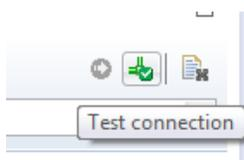

Figure 4 – Test connection
1.3 **Test the connection:** Once you enter the properties of the remote source, select the icon for testing the connection as shown in Fig 4 below and make sure that you get a confirmation as shown in Figure 5. You can then see that the remote source gets added to the remote sources available to you and you can now check the tables that you want to use in the planning applications as shown in Figure 6. In this example, we will be using the table PR\_REV\_BY\_CNTRY in our planning application. This table is stored in the external database but accessible to us through the remote source defined in the smart data access.